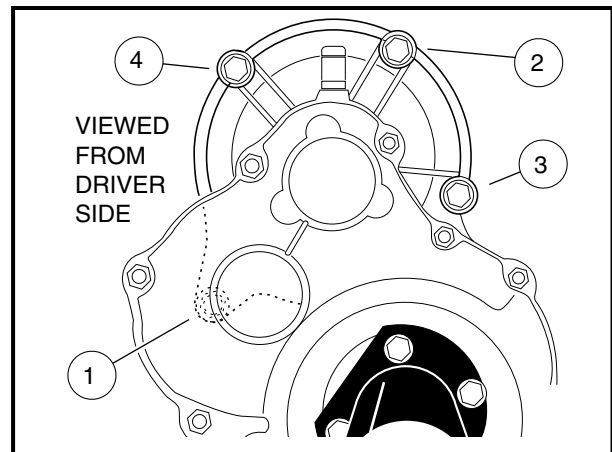

Figure 15-19 Motor Mount
- 4.3. Begin finger-tightening the bolts (1 and 2) in the sequence indicated (**Figure 15-19, Page 15-13**). Continue tightening by hand until the motor is seated in the transaxle housing. **See following CAUTION and NOTE.**
- 4.5. Tighten the center bolt (2) to 65 in-lb (7.3 N·m) (**Figure 15-19, Page 15-13**).